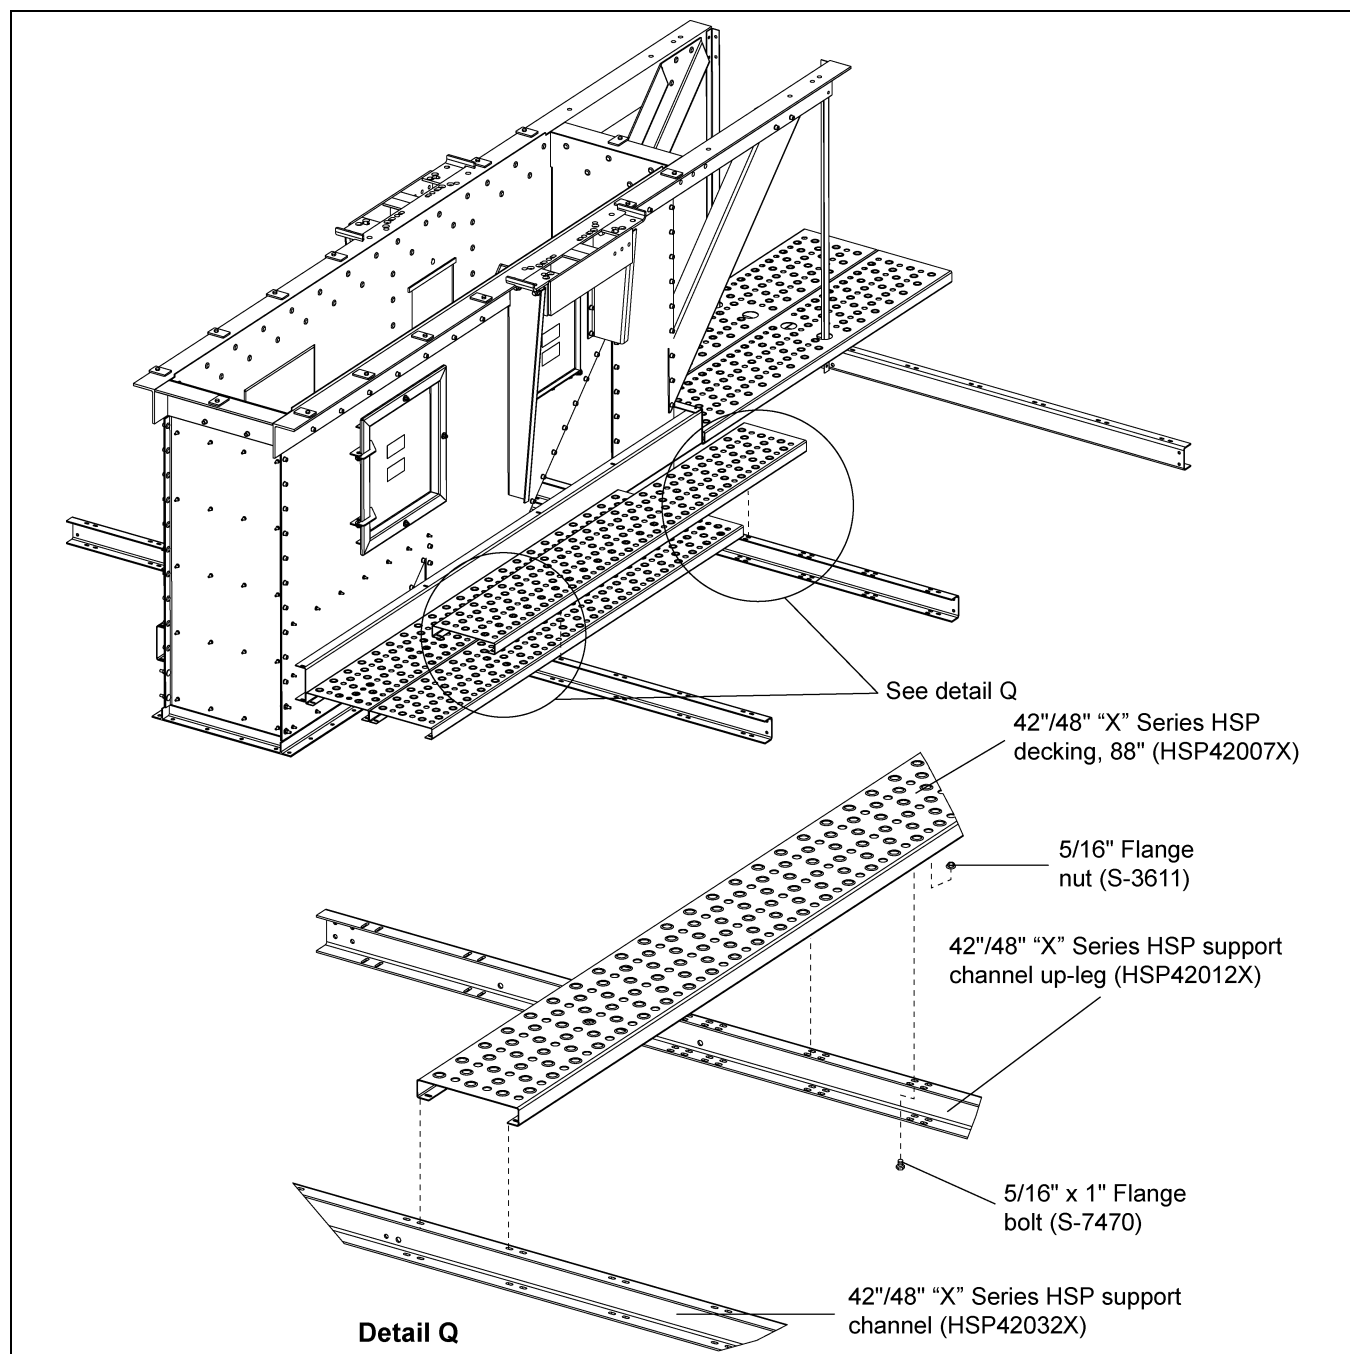

Figure 8H
1. Install five (5) planks of decking (HSP42007X) on the drive side at the down-leg end. **NOTE:** *Be sure to install this section of decking by starting at the inside next to the toe board and working outward.*
2. Fasten the decking to the support channels (HSP42032X and HSP42012X) using 5/16" x 1" flange bolts (S-7470) and 5/16" flange nuts (S-3611). (See Figure 8H.)